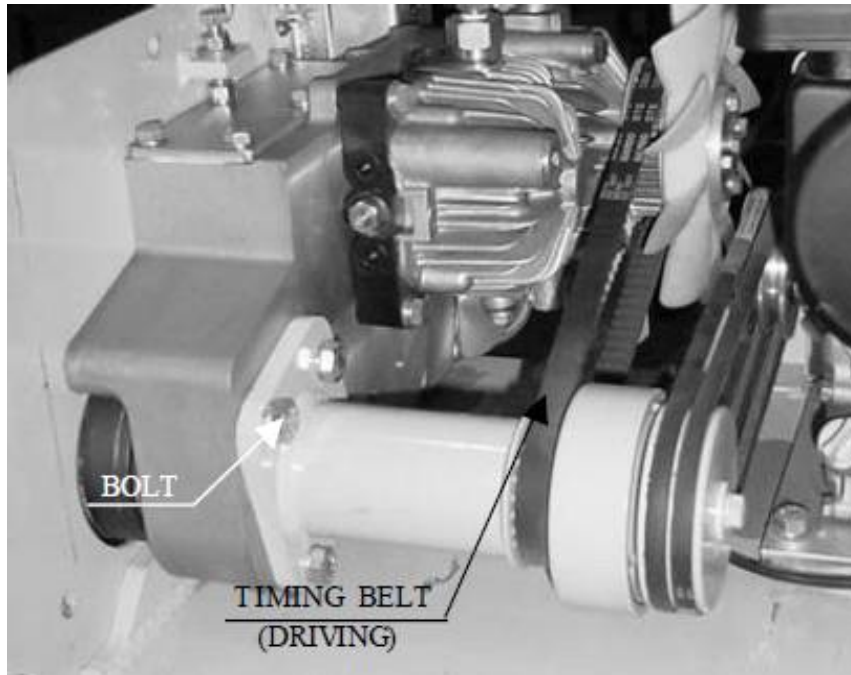

Figure 14-1
1. Loosen the four (4) bolts that secure the bearing case. Refer to Figure 14-1.